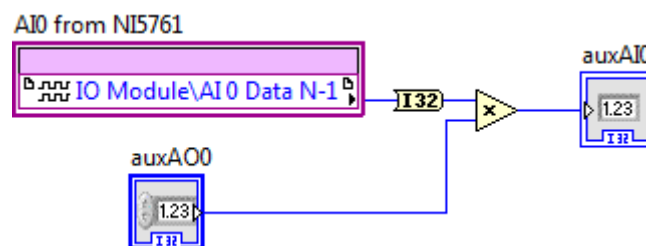

Fig. 14: Example of auxiliary analog output terminal
**auxAO<x>**: I32 control. The FPGA designer can include controls identified as auxAO<x> with LabVIEW I32 data type representing any internal variable in the FPGA. These are the user defined registers and therefore the functionality is totally defined by the designed. For instance Fig. 14 shows an example of how to multiply the input value acquired from AI0 channel by the value available in the terminal auxAO0. The maximum number of auxAO is 16.